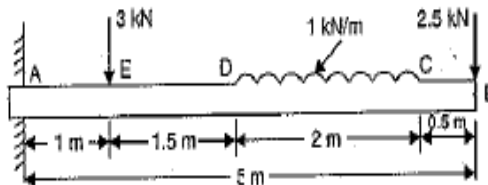

Fig.1
- A cantilever of length 5.0 m is loaded as shown in Fig.1 below. Draw the S.F and B.M diagrams for the cantilever. [7M]